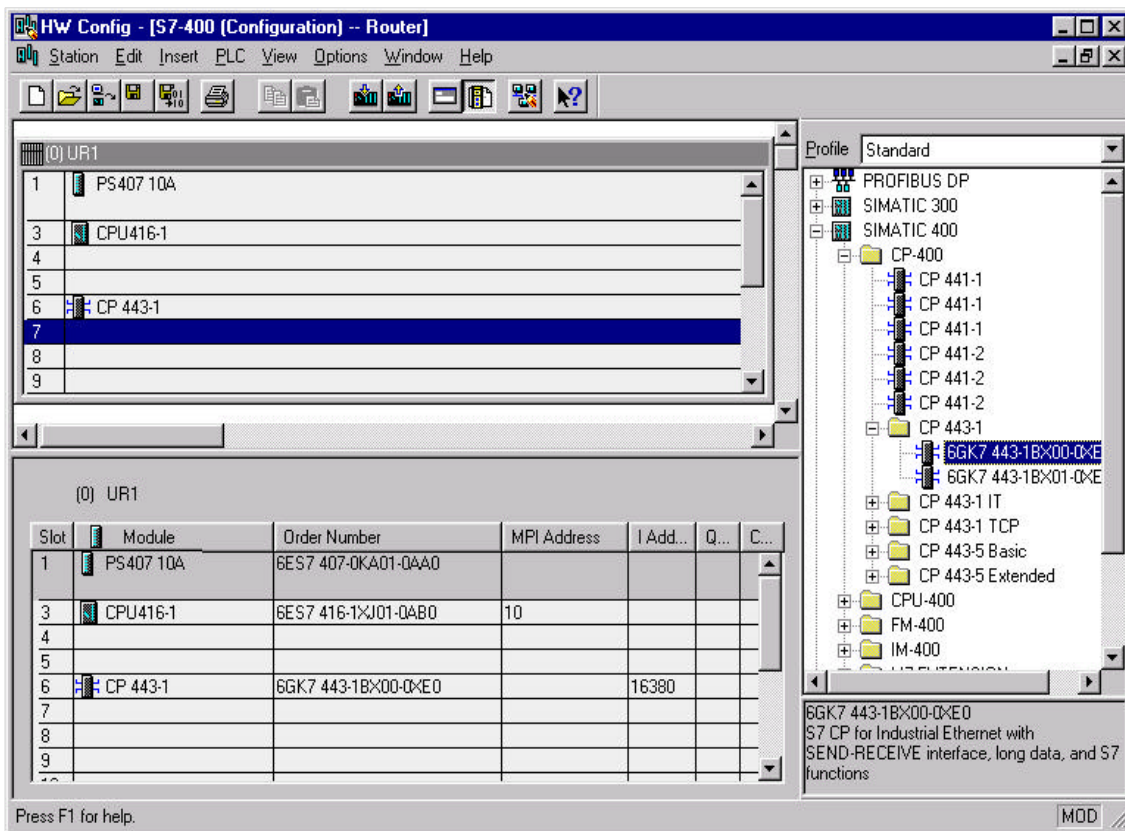

Figure 2-5 Hardware Assignment of the S7-400 Station
1. Select the components listed below and configure them as shown in Figure 2-5